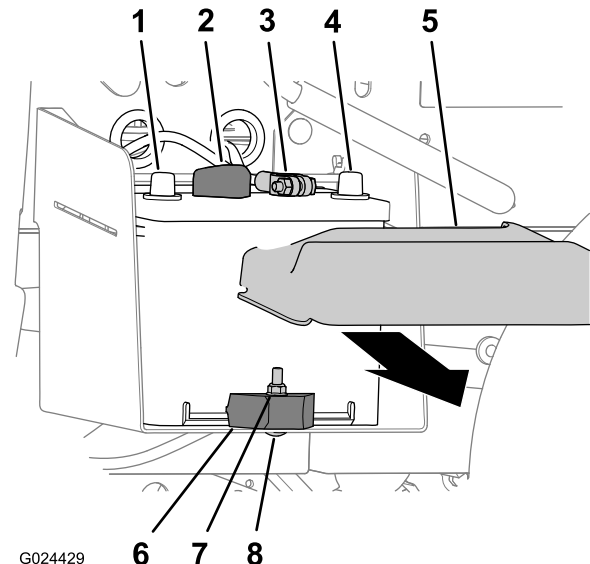

Figure 34
1. Squeeze the sides of the battery cover and remove the cover from the top of the battery (Figure 34).
2. Disconnect the negative battery cable from the terminal of the battery (Figure 34).
3. Disconnect the positive battery cable from the terminal of the battery (Figure 34).
2. Remove the locknut, carriage bolt, and battery clamp that secures the battery to the battery tray (Figure 34).
3. Remove the battery from the battery tray (Figure 34).
1. Align the battery to the battery tray of the machine (Figure 34).
Note: Ensure that the positive and negative posts of the battery are aligned as shown in Figure 34.
2. Secure the battery to the battery tray with the battery clamp, carriage bolt, and locknut (Figure 34).
1. Connect the positive battery cable to the terminal of the battery (Figure 34).
2. Connect the negative battery cable to the terminal of the battery (Figure 34).
3. Install the battery cover onto the top of the battery (Figure 34).